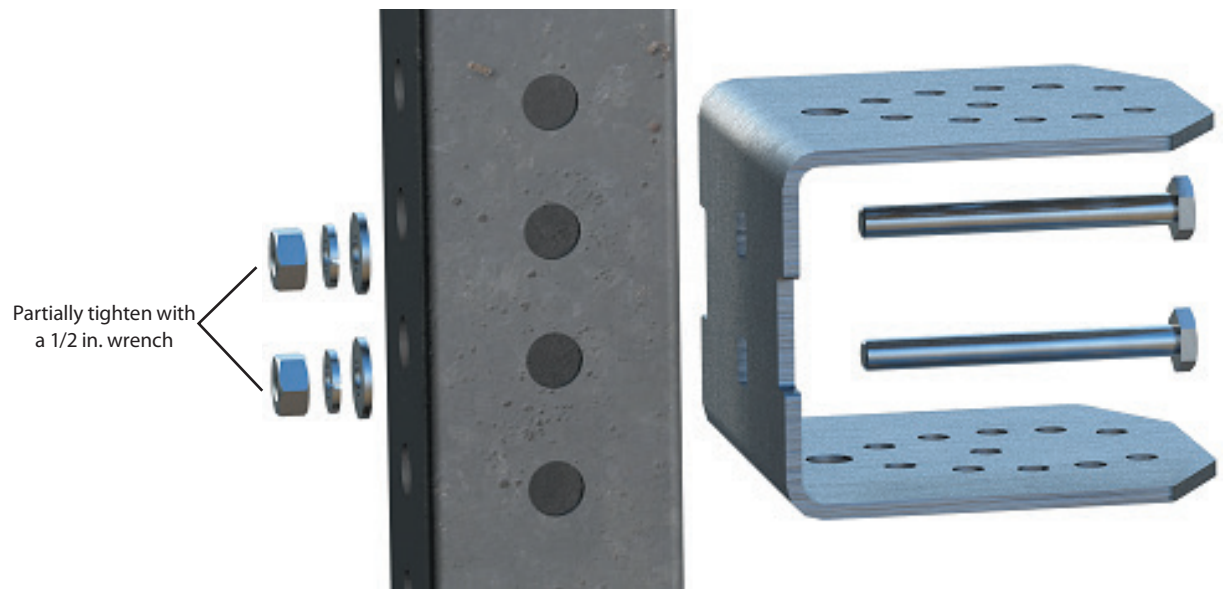

Figure 7
- B.2** Use the hardware from **Bag 3** to loosely fasten the **top** female bracket to the structure as shown in Figure 7. Amount of bolts used per bracket will vary depending on application.